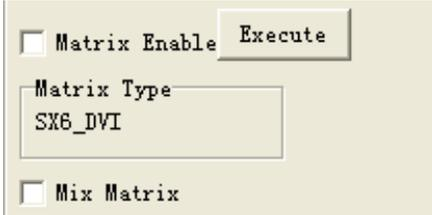

Fig.6
1) Select: Matrix linkage, and select the matrix input channel. The interface is shown as in Fig.6